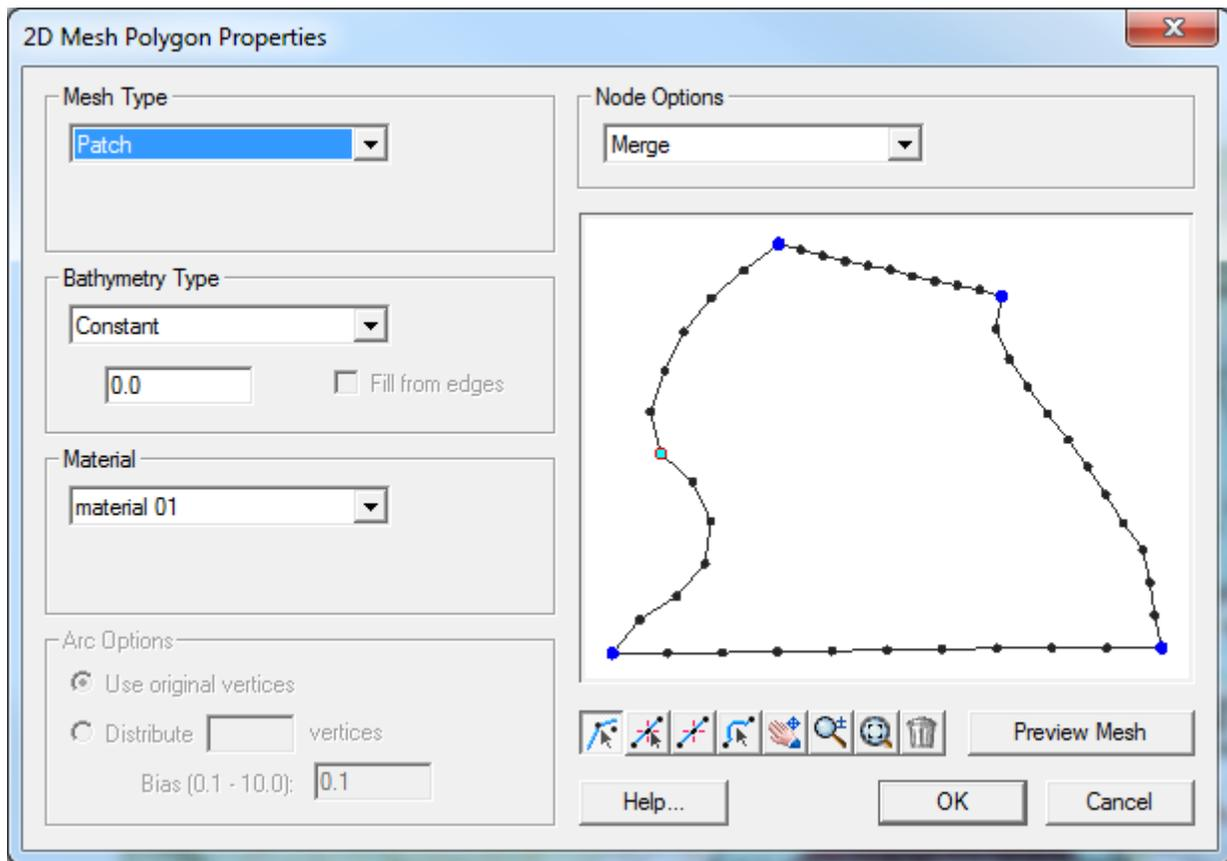

Figure 9 The Feature Polygon Attributes dialog.
3. Click on the node at the center of the left side, as seen in Figure 9.